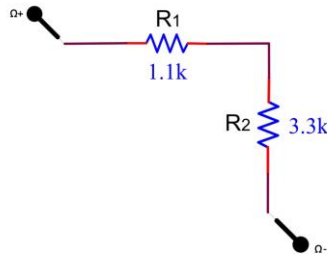

Figure 1.10
1. Measure R_1 and R_2 record the values in Figure 1.10.
2. Place R_1 and R_2 as depicted in Figure 1.10. Measure and record R_T as shown in Figure 1.10.